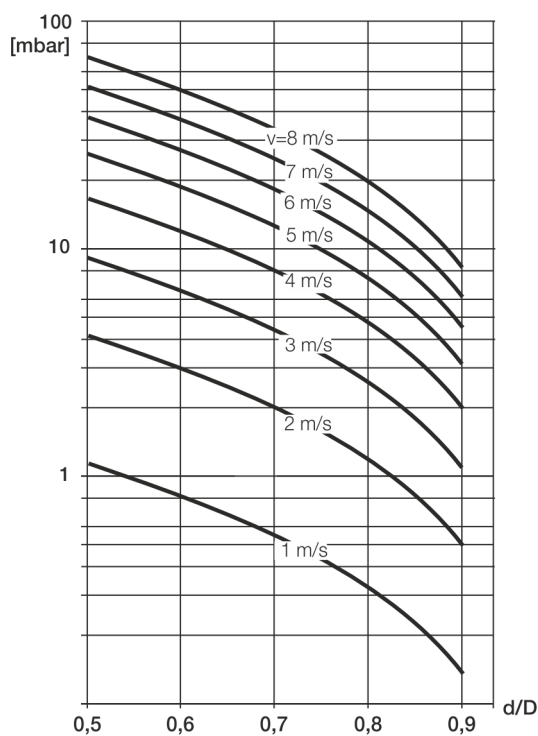

Figure 18: Flow rate nomogram for flange transition piece at $\alpha/2 = 8^\circ$
2. Determine the flow velocity based on the flow rate nomogram (Figure 18).
3. Read the pressure loss on the Y-axis in Figure 18.